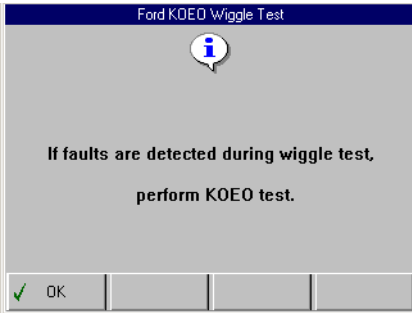

Figure 3.51: Wiggle Test Instruction Screen
- 6 Press the **ENTER** key. This displays an instruction screen (Figure 3.51 on page 58).